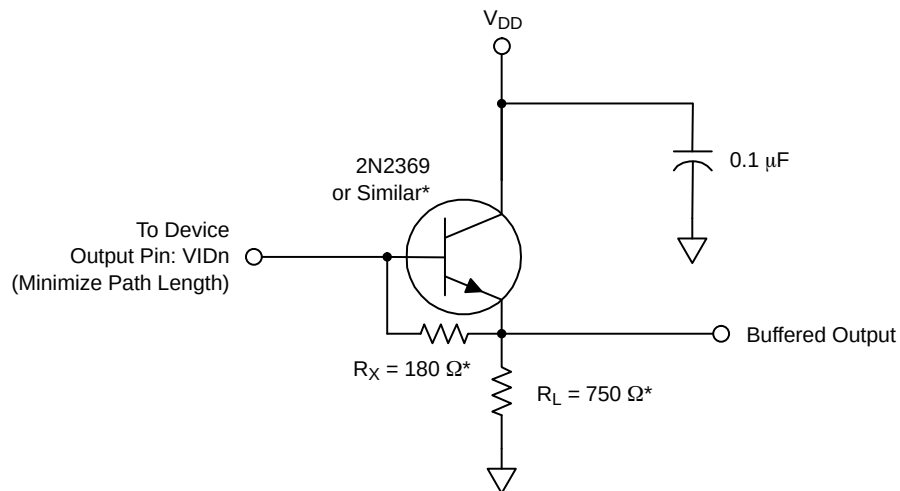

Figure 15. Typical Output Bias/Buffer Circuit
35. A current sink must be supplied for each output. Load capacitance should be minimized so as not to limit bandwidth. R_X serves as the load bias for the on-chip amplifiers. Values of R_X and R_L should be chose to optimize performance for a given operating frequency, but R_X should not be less than 75 Ω . Figure 15 below shows one such solution.